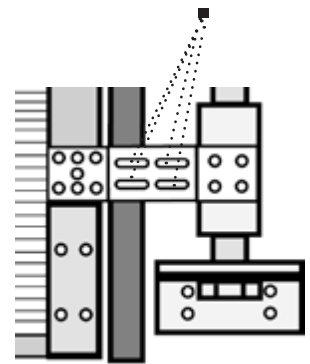

Figure 9
Lift the pre-assembled cylinder and the wall bracket assembly alongside door track at the height where the trolley center bracket and the trolley traveler bracket holes match. Attach the trolley door bracket, trolley center bracket assembly and the trolley traveler bracket together using (4) 5/16" x 3/4" carriage bolts and 5/16" flange nuts (Figure 9).